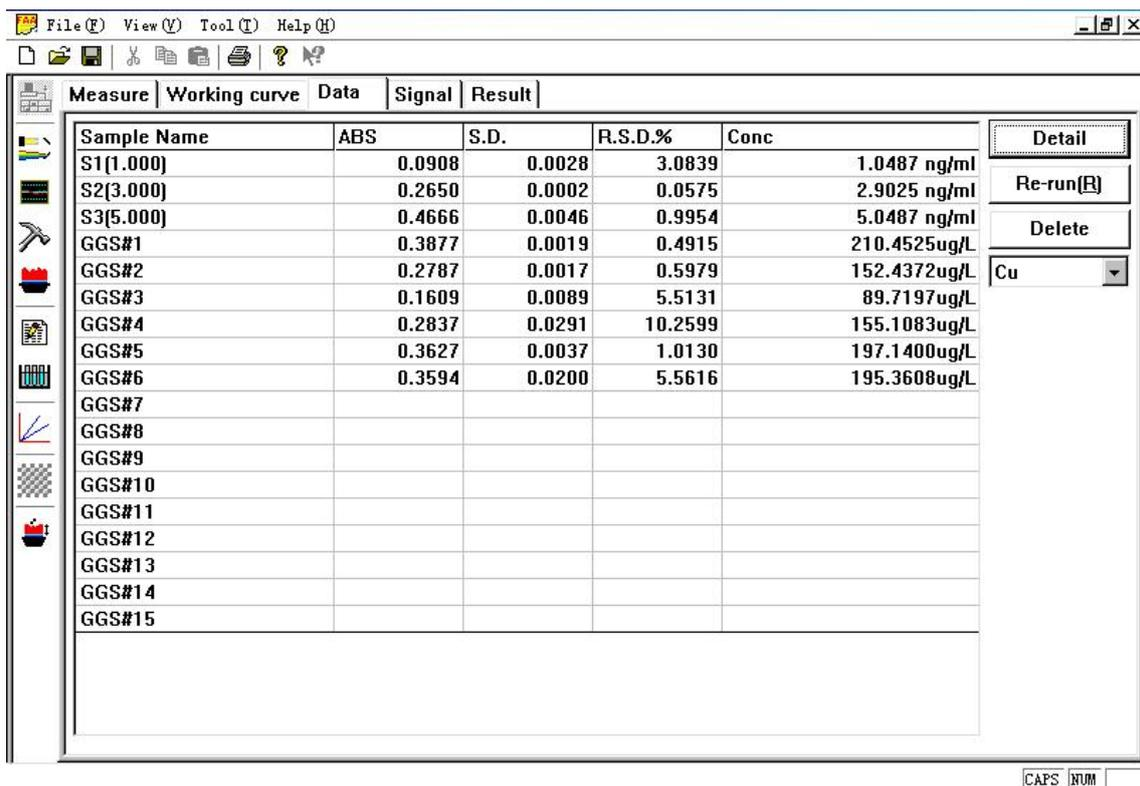
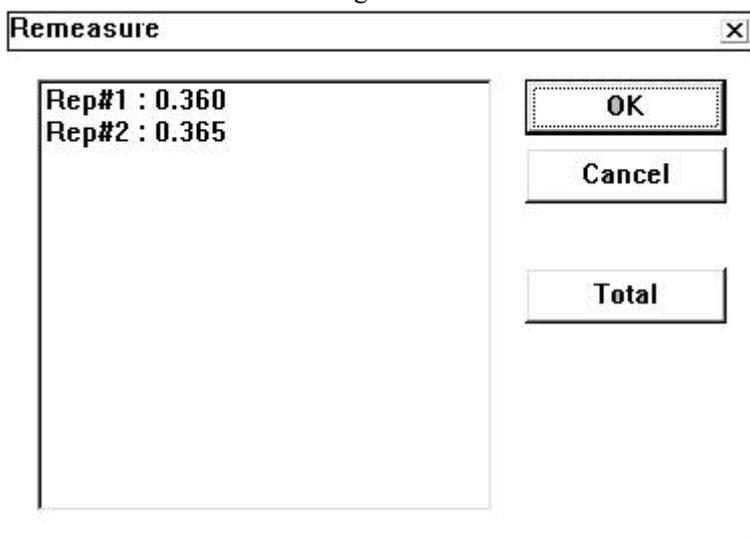

Fig. 4-31
Fig. 4-32
- 7) To modify the data of a standard point or the unknown sample point, click “Data” in the measurement page to display Fig. 4-31. Select the standard point or unknown sample to be modified, firstly click the item to making it being the blue color, then click “Rerun” key (Fig. 4-32) to select the abnormal point to make it again. And the return to the measurement page to measure the data continuously.
- 8) In Fig. 4-31, if click “Delete” key, all the data including the standard point and unknown sample point will be deleted.
10) Click “result” in the page of Fig. 4-31 to show Fig. 4-34, that shows the final result of the unknown sample. if the result format required by the user is not in accord with the format supplied by the software, click “Excel” key at the lower left corner to edit it.